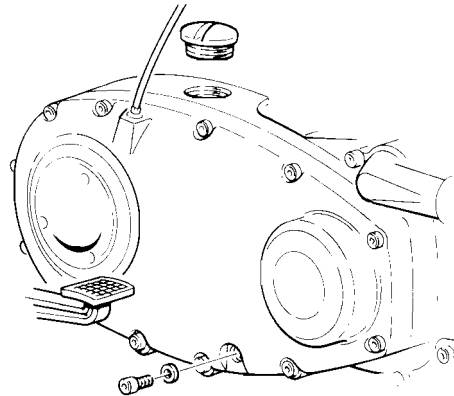

Figure 35 Checking chaincase oil level
3. Remove and clean the level plug (see fig 35)